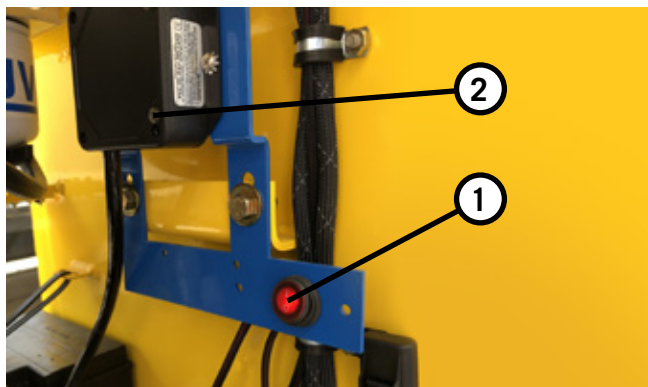

Fig. 1-5
1. To turn on the wireless remote receiver, flip up the red circle switch (Fig. 1-5, 1) located to the right, inside the machine. A red light will illuminate the red circle switch, indicating that the receiver is on.
3. The green lights on the remote (Fig. 1-6, 3) and receiver (Fig. 1-5, 2) will start flashing continuously, indicating they are connected.
NOTE: if the remote and receiver are not connected, make sure the remote and receiver are turned on. Make sure the remote is close enough to find a connection to the receiver (30 ft.) And hold the green button on the remote (fig. 1-6, 4) For 3-6 seconds or until the green lights start flashing on the remote (fig. 1-6, 3) And receiver (fig. 1-5, 2).